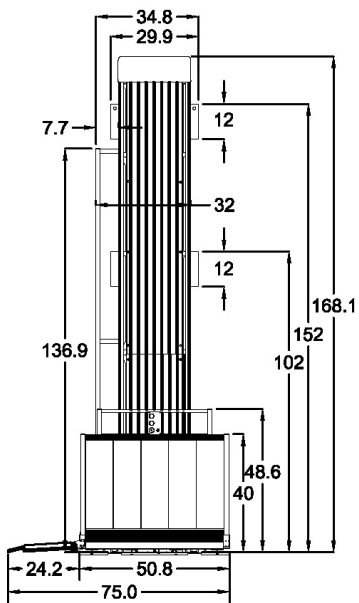

FIG 144.1
- 144" bracing must attach to an existing structure that is between 140" (min) and 150" (max) for the Upper Brace, and 90" (min) and 102" (max) for the Lower Brace. FIGs. 144.1 and 144.2.
BACK BRACE – FIG. 144.1